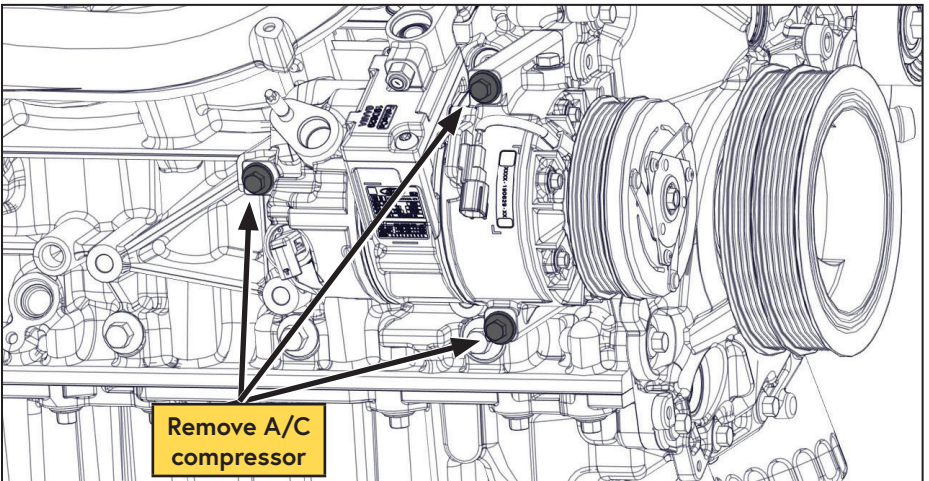

Figure 11 — Remove A/C compressor
- Leaving the A/C lines connected, remove the A/C compressor and secure it up and out of the way (Figure 11).